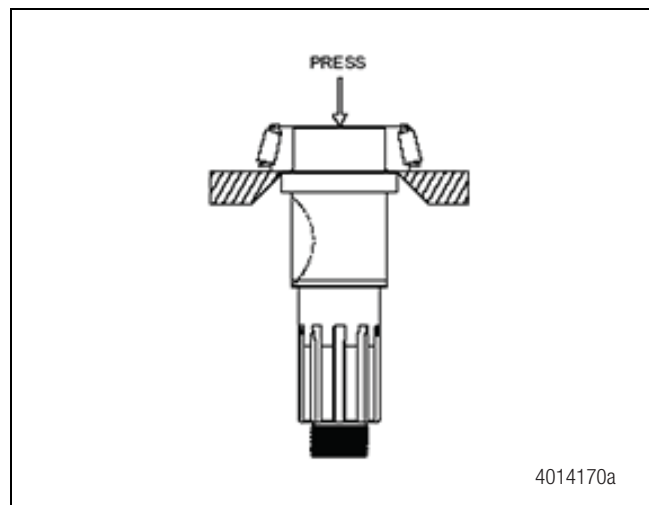

Figure 5.20
4. To remove the rear bearing cone assembly, support under the cone with a bearing separator and press the shaft through the cone. Figure 5.20. Remove the shaft key only if necessary